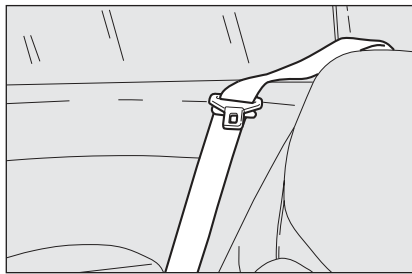

fig. 2/b
### Seat belt with three anchor points and reel fig. 2/a
**IMPORTANT** If the rear seat belts are not used, position the buckle as shown in fig. 2/b.